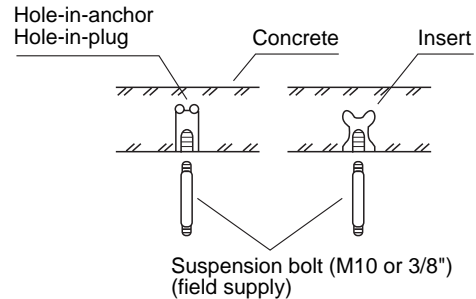

Fig. 3-65
- (2) Drill holes at the 4 points indicated on the full-scale diagram.
- (3) Depending on the ceiling type:
- a) Insert bolt anchors as shown in Fig. 3-65.